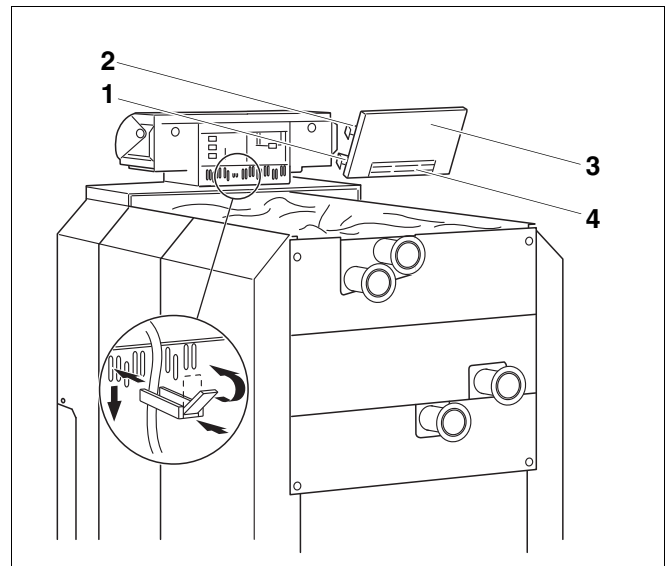

Fig. 27 Fitting the cable clips
- Insert the cable clips (with the connecting cable in place) into the clip frame and secure the cable by clamping it with the tab (Fig. 27).
- Insert both lower hooks [1] on the right and left sides of the rear panel section [3] into the slot in the upper edge of the clip frame (Fig. 27).
- Push both upper elastic push-in hooks [2] slightly inwards (arrowed in Fig. 27) and insert the rear panel section [3] so that both hooks lock into place.